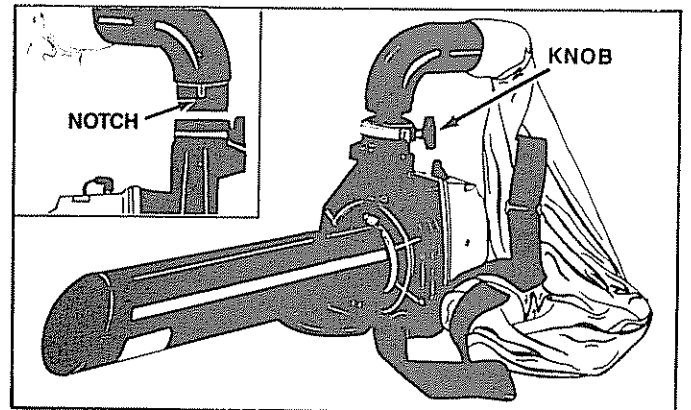

Figure 5
- Slide the collection bag tube into the blower opening until it bottoms out (about 2-1/2 inches). Figure 5.
- Align the notch on the collection bag tube with the center seam of the blower outlet as shown in Figure 5, then secure the collection bag tube to the engine with the knob until hand-tight.